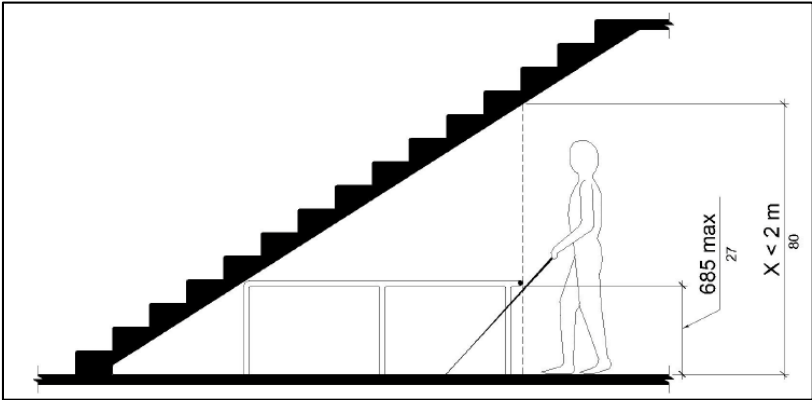

Figure 23 - Reduced Vertical Clearance
- Objects with leading edges between 2.25 ft. – 6.7 ft. above finish surface do not protrude more than 4 in. maximum into the pedestrian circulation paths (see **Figure 23**)
- Guardrails or other barriers to pedestrian travel are provided where the vertical clearance is less than 6.7 ft. high (see **Figure 23**)